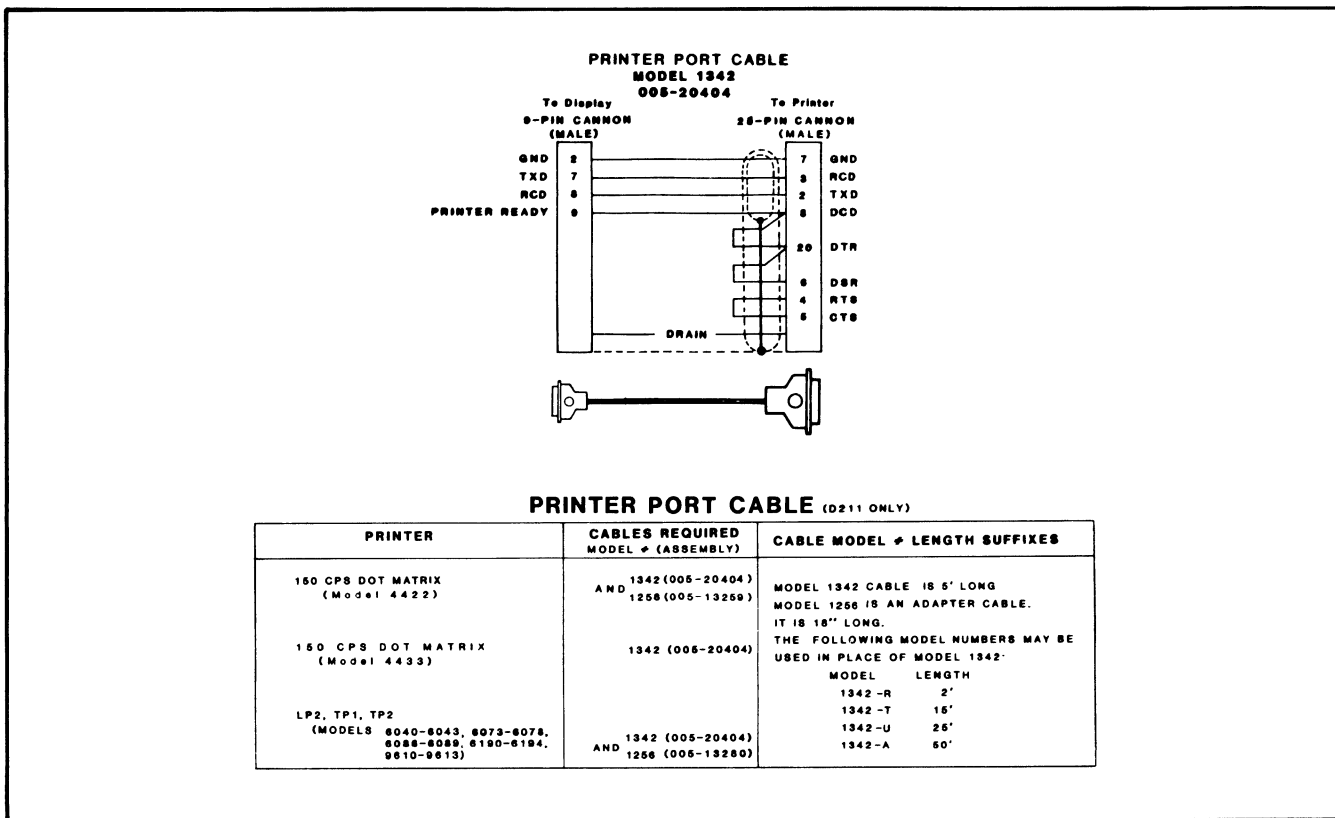

Figure 4-8. Terminal/Printer Interface Cables (D211 Only)
6. If a printer is to be installed with the D211 terminal (such as a DASHER TP1/TP2 receive only (RO) printer or a 340 CPS Serial Matrix Printer) consult the printer documentation for unpacking instructions, parts inventory, etc. Proceed as follows when the printer is ready for installation:
- c. Connect the printer interface cable between the printer and the printer connector at the rear of the display unit. The printer cables are shown in Figure 4-8.